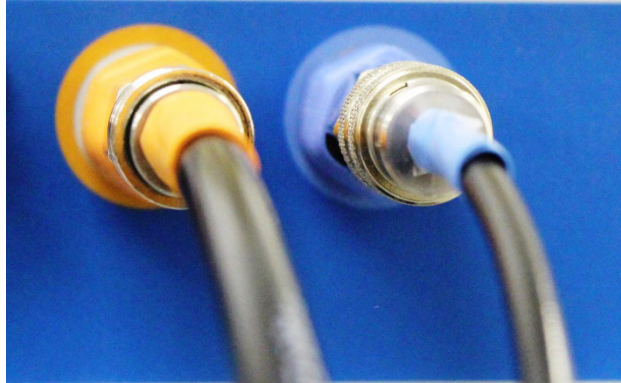

FIGURE 13: COLOR CODED PNEUMATIC CONNECTORS
3. Insert the corresponding connections on the pneumatic connectors as shown below in Figure 13. The sliding ring will need to be manually pushed-in on the orange connector.